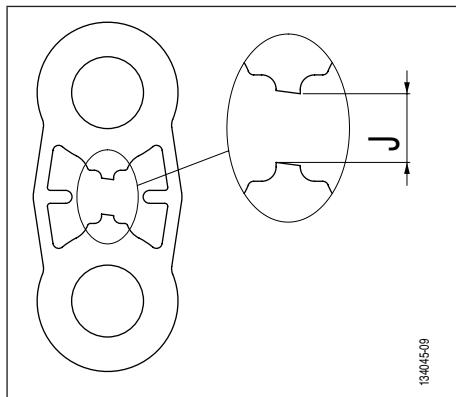

Fig. 7
2. Check that the TA test plate is correctly secured (Fig. 2, page 4 and Fig. 7, page 6).
DANGER: The maximum clearance 'J' (Fig. 7, clearance J) must not exceed 15 mm.
2. On shearing of the 'S' control section of the TA test plate (*Fig. 7*), the operator must immediately stop his action on the loading device. Failure to do so may result in total shearing of the plate.
8. Continue loading of the TA test plate after the 'S' control section (see *5.2. Test procedure, Fig. 7*) has sheared.